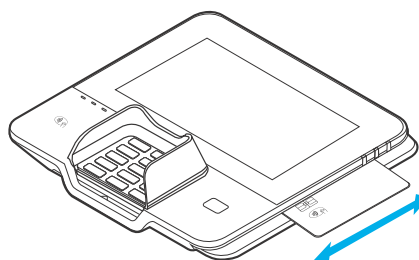

Figure 11 Using the Magnetic Card Reader
- 2 Position a magnetic card with the stripe to face downward, as shown in Figure 11.